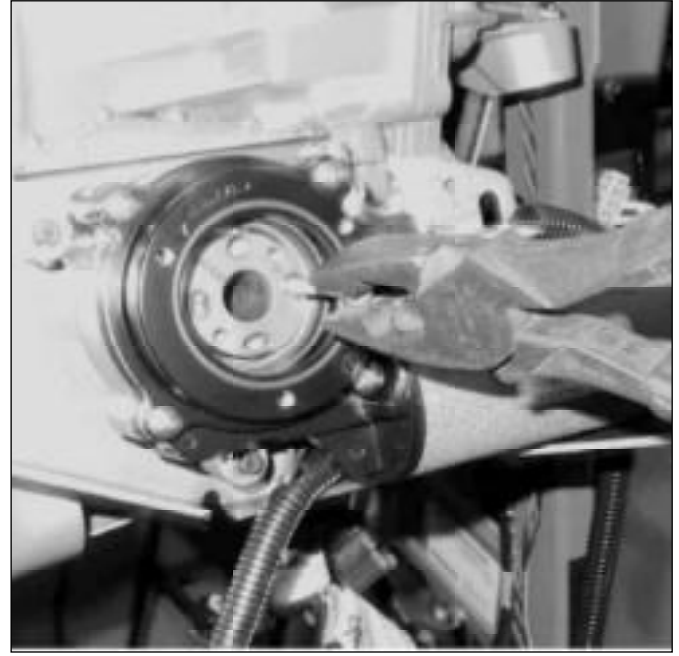

Fig. 7-17. Pull the lost motion wheel outward.
24. Place a #10-32 screw partially into 1 of the 4 holes in the lost motion wheel. Grasp the head of the socket head cap screw with a pair of pliers and pull the lost motion wheel outward, figure 7-17. This places the actuator into the "calibration" position.